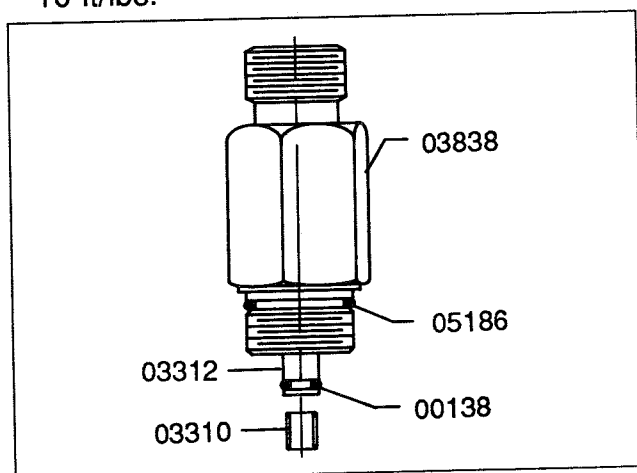

Figure 22
16.0 PRIMARY OUTLET ASSEMBLY - BOTTOM, CENTER OF VALVE BLOCK (FIGURE 22)